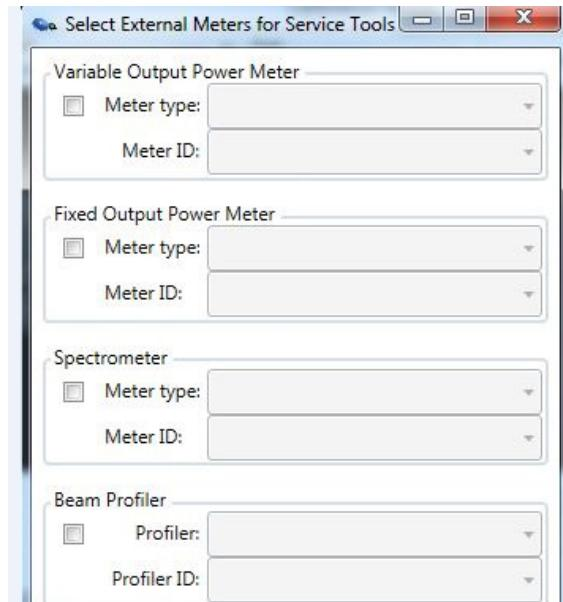

Figure 1.2-19. External Meters Menu
2. Connect the PowerMax power meter, BP209 beam profiler and WaveScan through the Service Meters menu. See Figure 1.2-19.